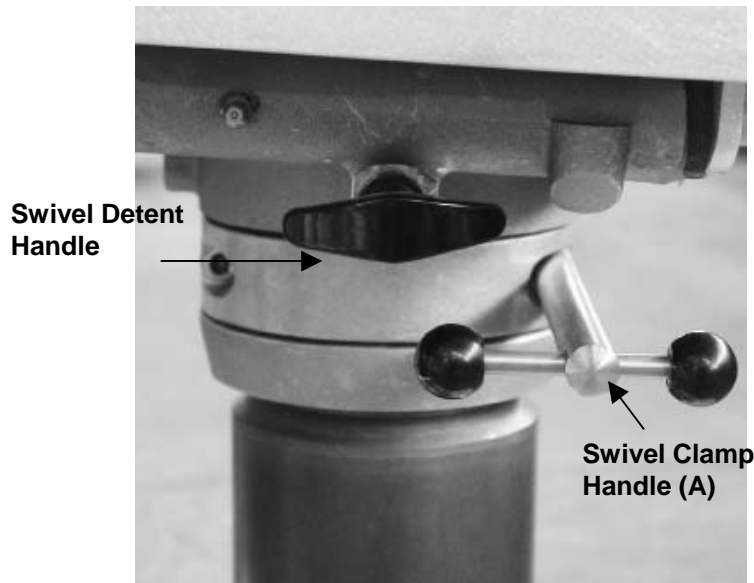

Figure 8
TO ROTATE THE SEAT (A) (Figure 8)